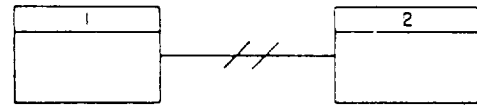

Figure 9-9.—Designations of a critical path.
**CRITICAL ACTIVITIES.**— A critical activity is an activity within the network that has zero float time. The critical activities of a network make up the longest path through the network (critical path) that controls the project finish date. Slashes drawn through an activity connector, as shown in figure 9-9, denote a critical path.